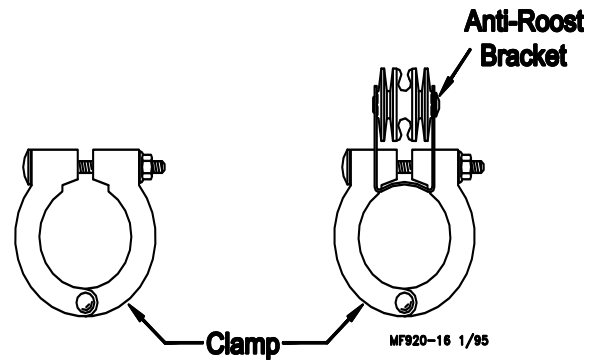

Figure 34. Tube Clamps
Anti-Roost Bracket at each joint. **Figure 34**
- make sure the clamps are located, as shown in **Figure 34**.